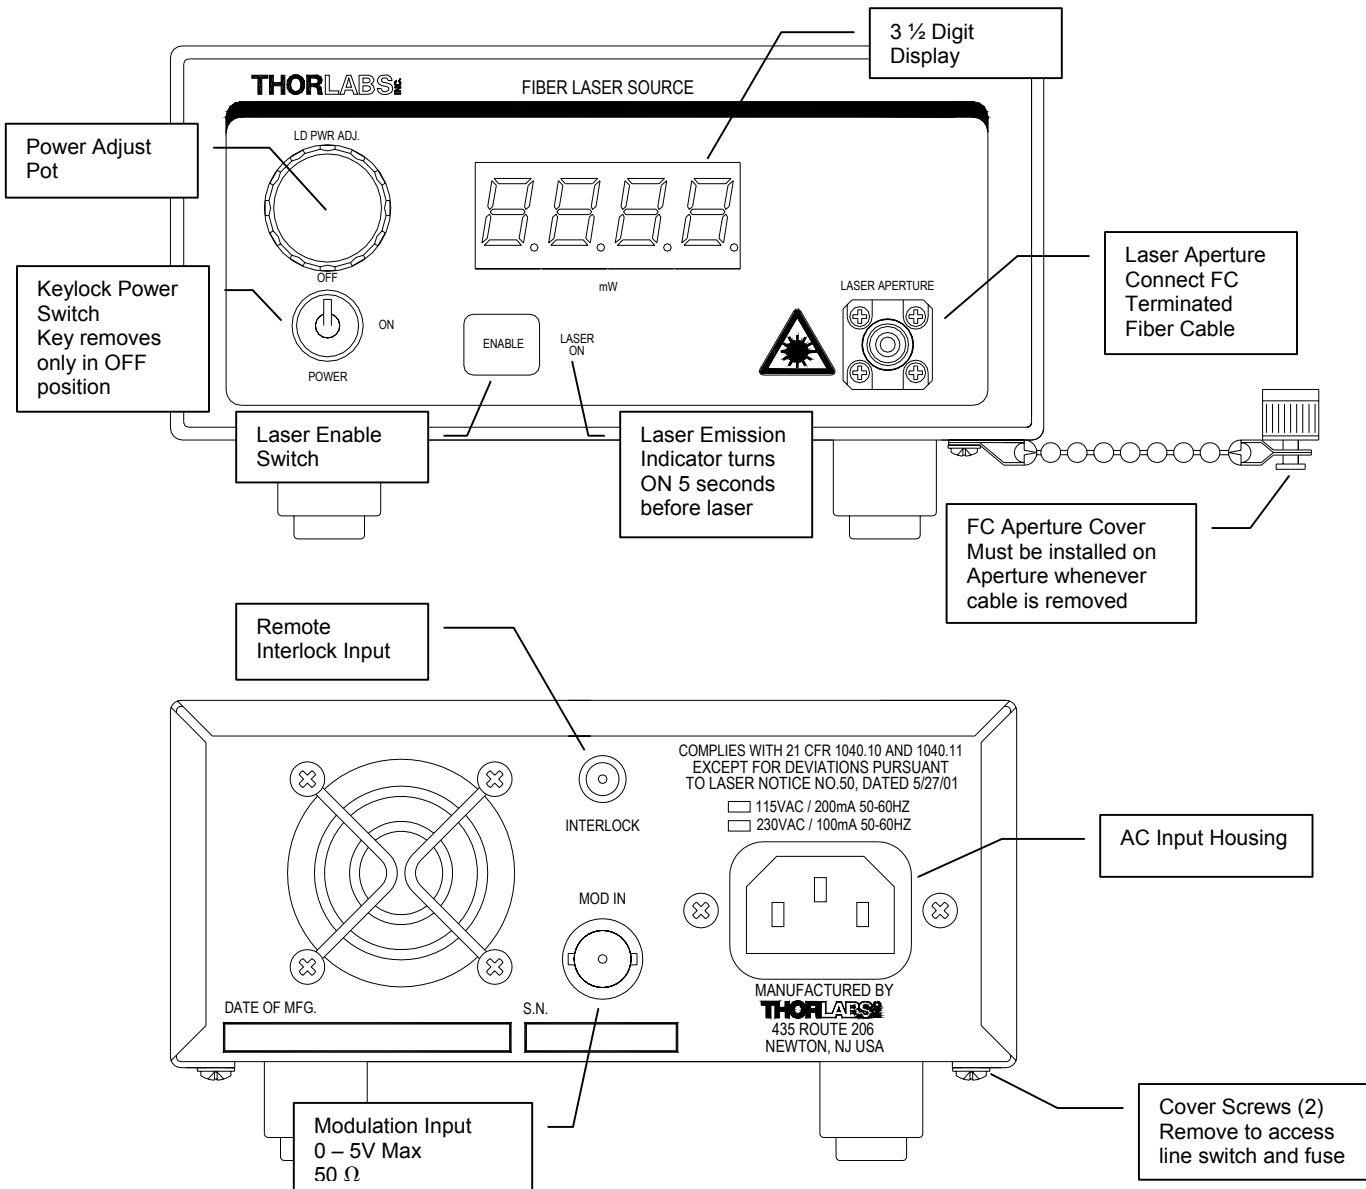

Figure 2 - Front and Rear Panels of Fabry-Perot Laser Source
- Remove the cover of the unit by removing the two 4-40 Phillips head screws located on the bottom rear of the unit and sliding the cover off. Refer to Figure 2.
The S1 and S3 series Laser Sources are equipped with a Remote Interlock connector located on the rear panel (Refer to Figure 2). All units have this feature regardless of their FDA and IEC classifications. In order to enable the laser source, a short circuit must be applied across the terminals of the Remote Interlock connector. In practice this connection is made available to allow the user to connect a remote actuated switch to the connector (i.e. an open door indicator). The switch (which must be normally open) has to be closed in order for the unit to be enabled. Once the switch is in an open state the Laser Source will automatically shutdown. If the switch returns to a closed condition the Laser Source must be re-enabled at the unit by pressing the ENABLE switch.